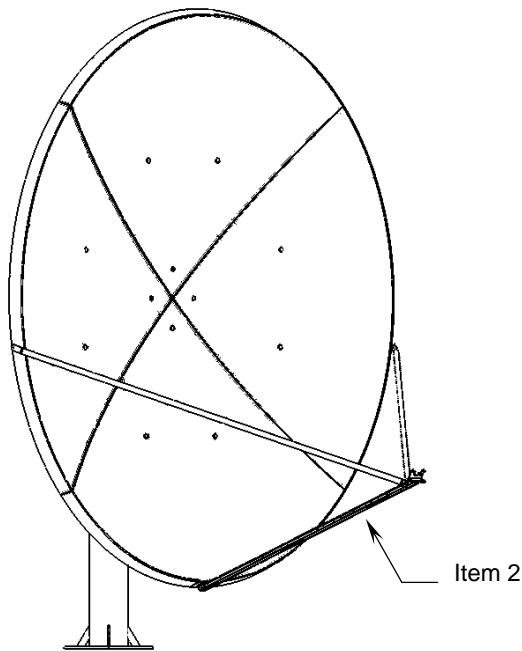
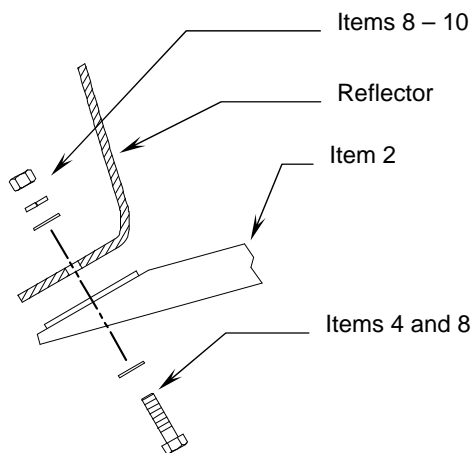

**Figure 25: Feed Support Feed Rod Assembly**
**Figure 26: Feed Support Feed Rod Detail**
2. Position the feed support (item 2) in front of the reflector as shown and attach to the top ends of the feed rods with 1/2" hardware (items 3, 5, 6, 7). See Figure 25, Feed Support Feed Rod Assembly. See Figure 26, Feed Support Feed Rod Detail